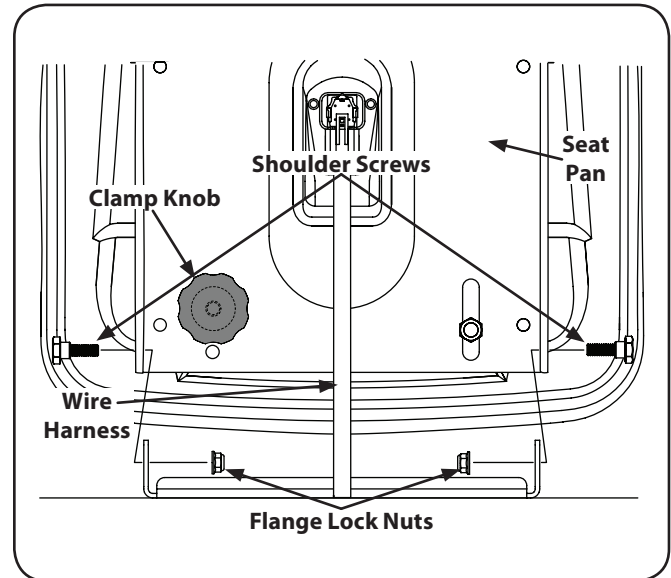

Figure 4-2
2. Remove the two shoulder screws and flange lock nuts in the seat pan as shown in Figure 4-2.
3. Rotate the seat into position and secure the seat into place with the previously removed shoulder screws and flange lock nuts. Be careful not to crimp or damage the wire harness while installing the seat. See Figure 4-2.
To adjust the position of the seat, rotate the seat forward and locate the clamp knob on the front left of the seat pan. Refer to Figure 4-2.